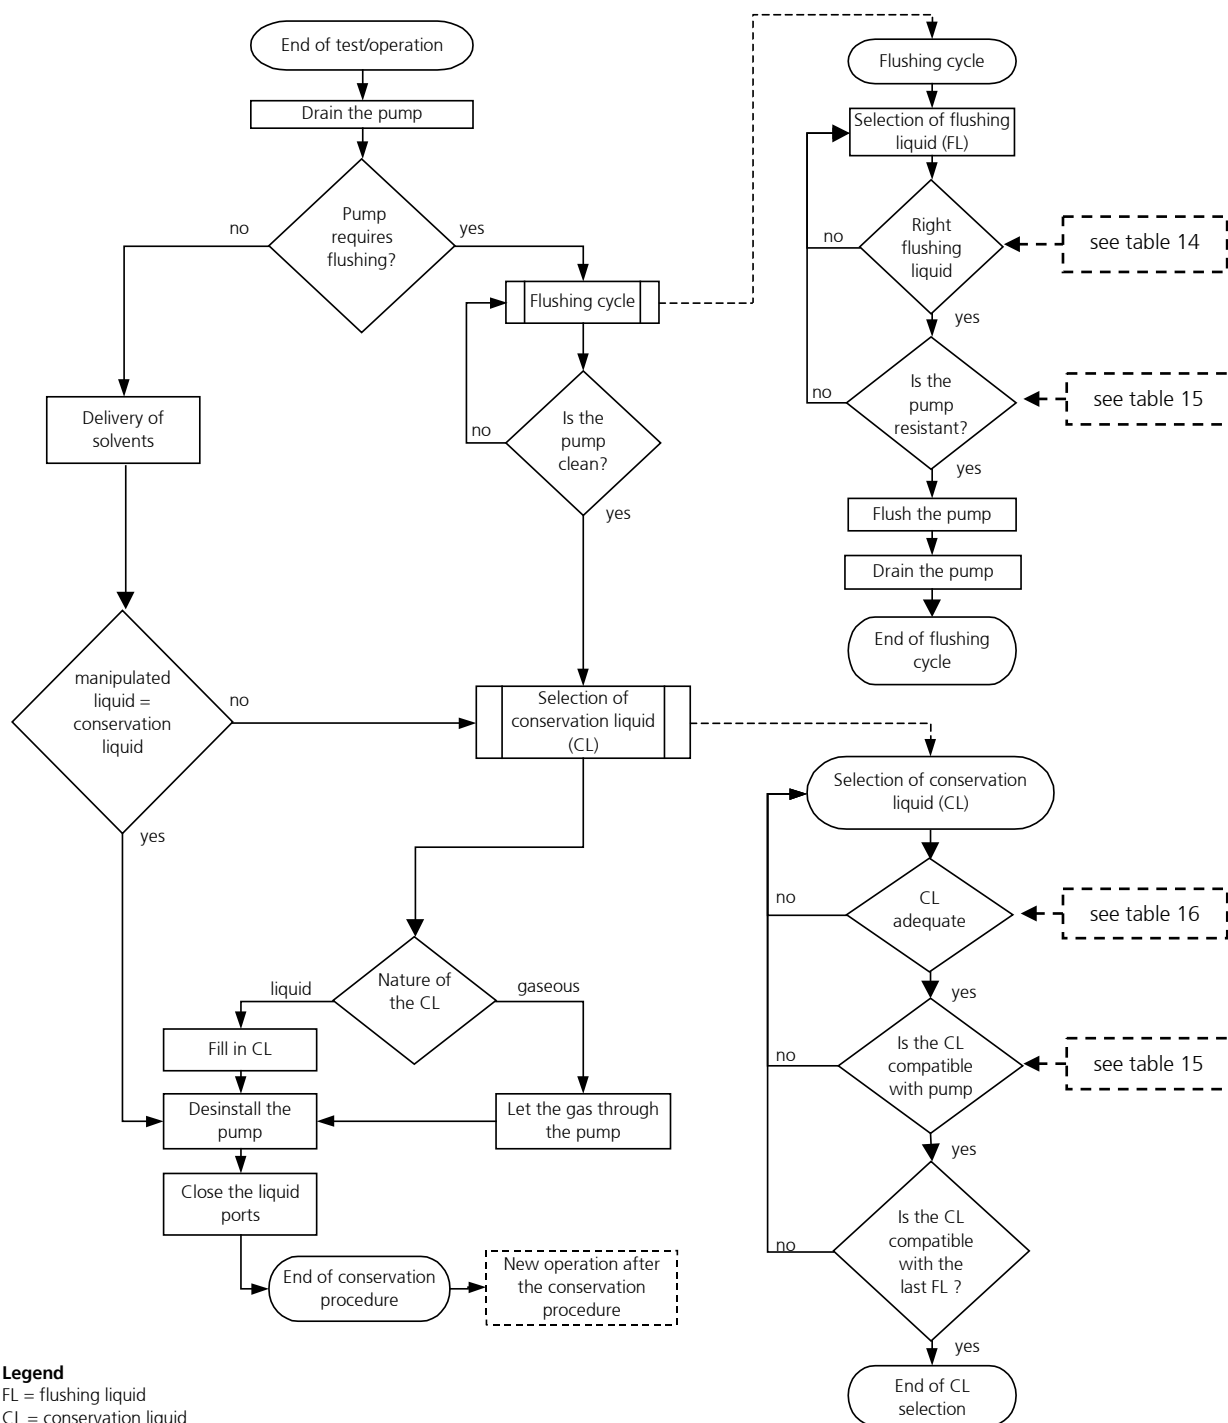

figure 8
By proceeding as shown in the diagram (see figure 8) you may prepare the pump for a longer standstill.
*Remark:* This diagram is repeated as a part of the figure 8 (shutdown procedure of the micro annular gear pump).